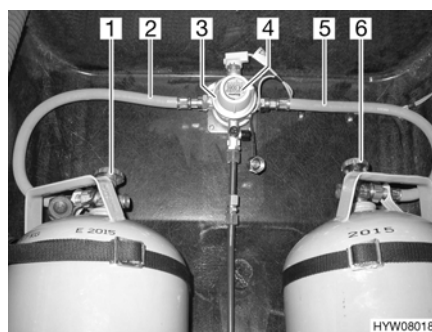
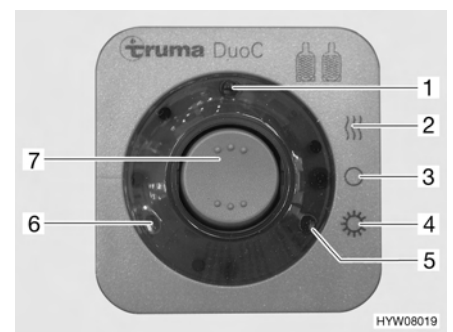

Fig. 52 DuoControl switching facility
Fig. 53 Operating unit
The DuoControl switching facility consists of a reversing valve (Fig. 52,3) and an operating unit (Fig. 53). The reversing valve is installed between the gas tubes (Fig. 52,2 and 5). The knob (Fig. 52,4) on the reversing valve is used to select which of the gas bottles is to be used as a primary bottle and which is to be used as a reserve bottle.
Only the electrical functions can be switched at the operating unit (Fig. 53). The regulator taps on the gas bottles (Fig. 52,1 and 6) must be opened manually.
The reversing valve provides a constant gas pressure, regardless of which gas bottle is being drawn upon. The two indicator lamps on the operating unit indicate the level of the primary bottle. When the green indicator lamp (Fig. 53,6) illuminates, the primary bottle is full. When the red indicator lamp (Fig. 53,5) illuminates, the primary bottle is empty. In this case, the reserve bottle is used for the gas supply.
- Open the regulator taps on the gas bottles (Fig. 52,1 and 6).
- Use the knob (Fig. 52,4) on the reversing valve (Fig. 52,3) to select the gas bottle which is to be the primary source of gas (primary bottle). Always turn the knob as far as it will go.
- Switch on the DuoControl switching facility at the operating unit (Fig. 53). To do so, set the rocker switch (Fig. 53,7) to winter operation "On and heating" (Fig. 53,2) or to summer operation "On" (Fig. 53,4). The reversing valve is now deaerated. The yellow indicator lamp (Fig. 53,1) illuminates if the winter operation has been selected and the regulator defroster is activated.
- Set the rocker switch (Fig. 53,7) to "O" (Fig. 53,3). The yellow indicator lamp (Fig. 53,1) goes out.
- Close the regulator taps on the gas bottles (Fig. 52,1 and 6).
The indicator lamps on the operating unit (Fig. 53,5 and 6) indicate in the vehicle interior whether the primary bottle is ready for operation.
If the green indicator lamp (Fig. 53,6) stops illuminating during operation and the red indicator lamp (Fig. 53,5) illuminates, the gas bottle selected as primary bottle is empty and needs to be changed. The reserve bottle continues supplying the gas appliances with gas.